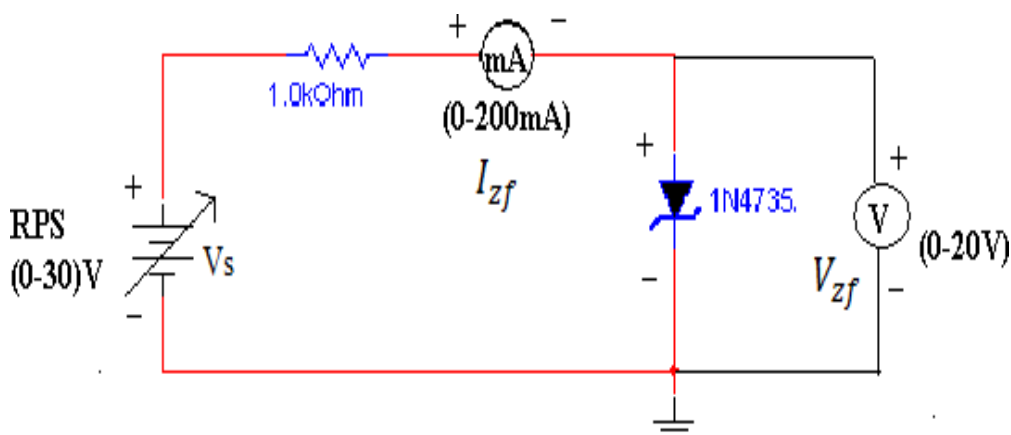

Figure 7.4: Forward Bias Condition
- Connect the circuit as shown in Figure 7.4.